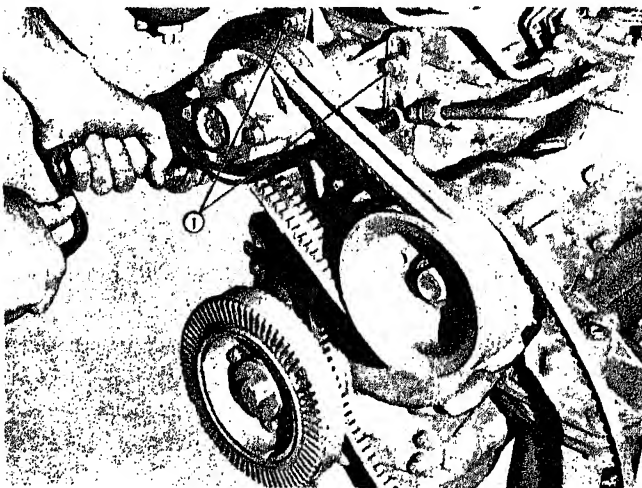

Fig. 0-6. Removing fan bracket mounting capscrews
4. Remove fan hub bracket mounting capscrews (1, Fig. 0-6); lockwashers and flatwashers; lift fan hub and bracket assembly from engine.